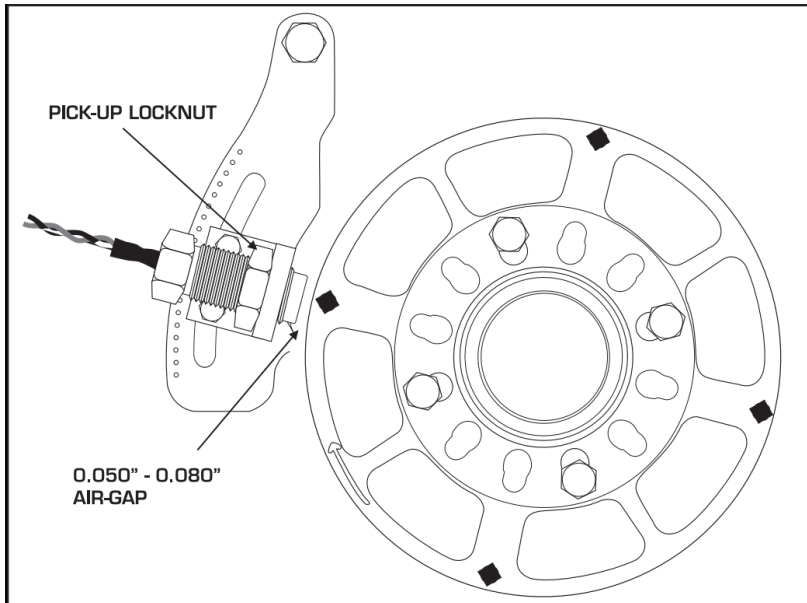

Figure 5: Setting the Air Gap.
2. With the brackets and trigger wheel mounted (with the arrow on the wheel facing out) position the pickup within 0.050" – 0.080" from the wheel using a feeler gauge then tighten the locknut (**Figure 5**). Do not over tighten the locknut.